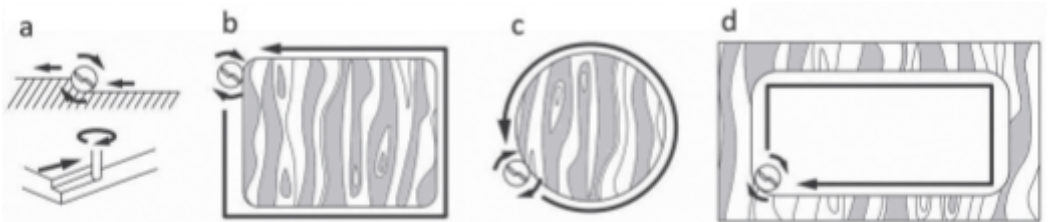

Figure 8
4. **Edge Cutting Direction:** When edge cutting, the cut should be on the left side relative to the direction of travel (**Figure 8**).
Note: Preventing Bit Chatter. To avoid bit chatter, cut **counter-clockwise** for external cuts (**Figure 8-b, c**) and **clockwise** for internal cuts (**Figure 8-d**).